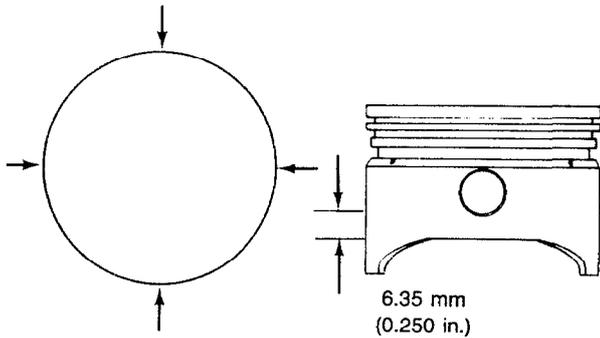

Figure 245 — Measuring Piston Skirt
- s. Using a micrometer measure the piston for wear 6.35 mm (0.250 in.) above the bottom of the piston skirt, at a right angle to the gudgeon pin bore (see Fig. 245). The standard dimension of the piston is 91.92-91.95 mm (3.619-3.620 in.). Replace the piston if the measurement is less than 91.87 mm (3.617 in.).